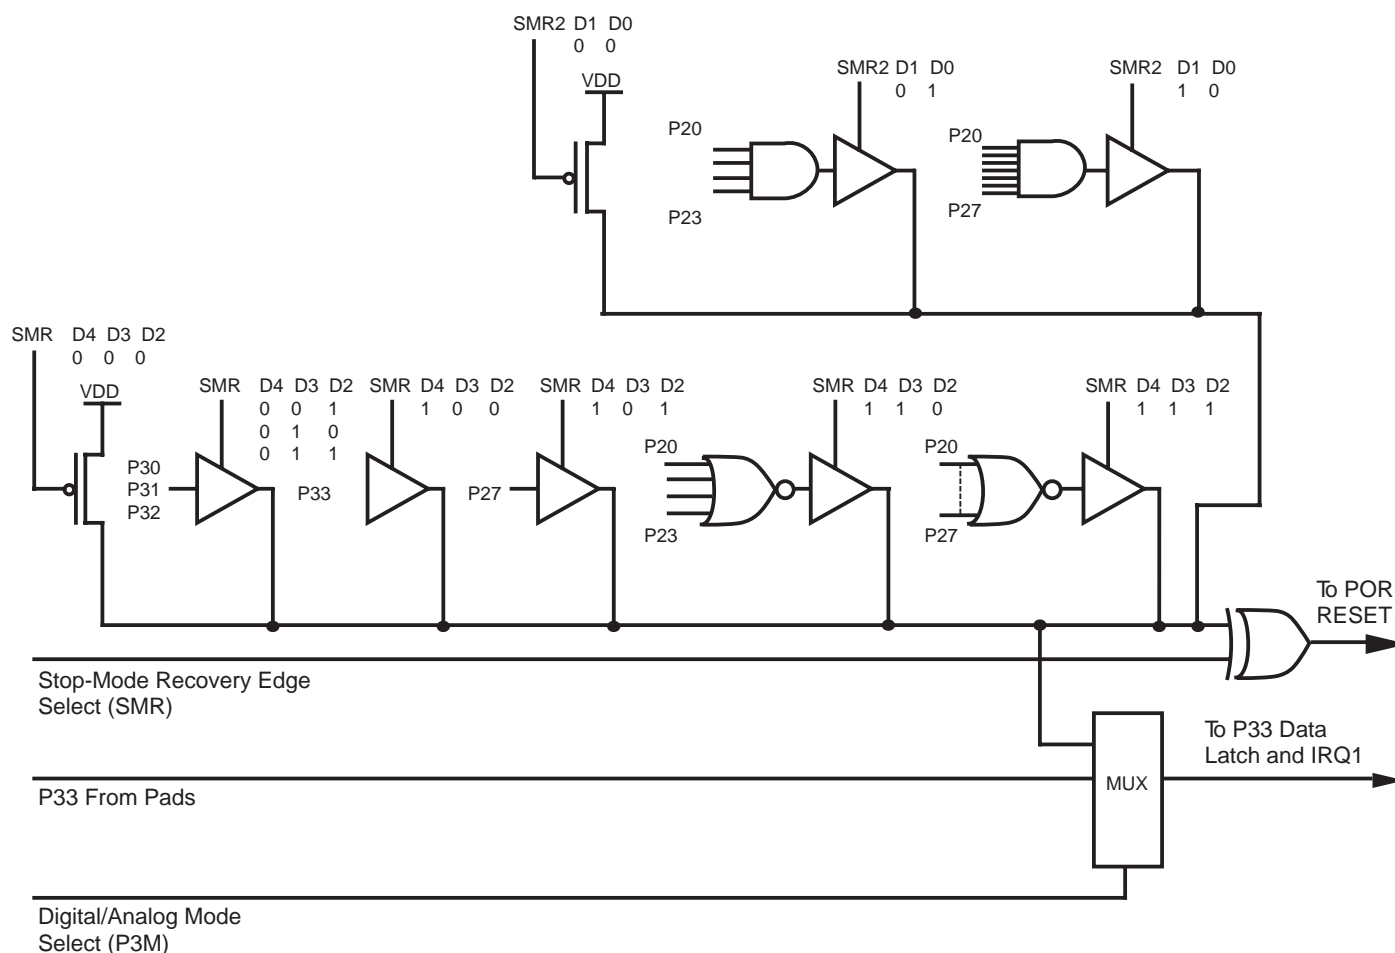

Figure 32. Stop-Mode Recovery Source
**STOP-Mode Recovery Source (D2, D3, and D4).** These three bits of the SMR register specify the wake up source of the STOP-Mode Recovery (Figure 32). Table 12 shows the SMR source selected with the setting of D2 to D4. P33–P31 cannot be used to wake up from STOP mode when programmed as analog inputs. When the STOP-Mode Recovery sources are selected in this register then SMR2 register bits D0, D1 must be set to zero.